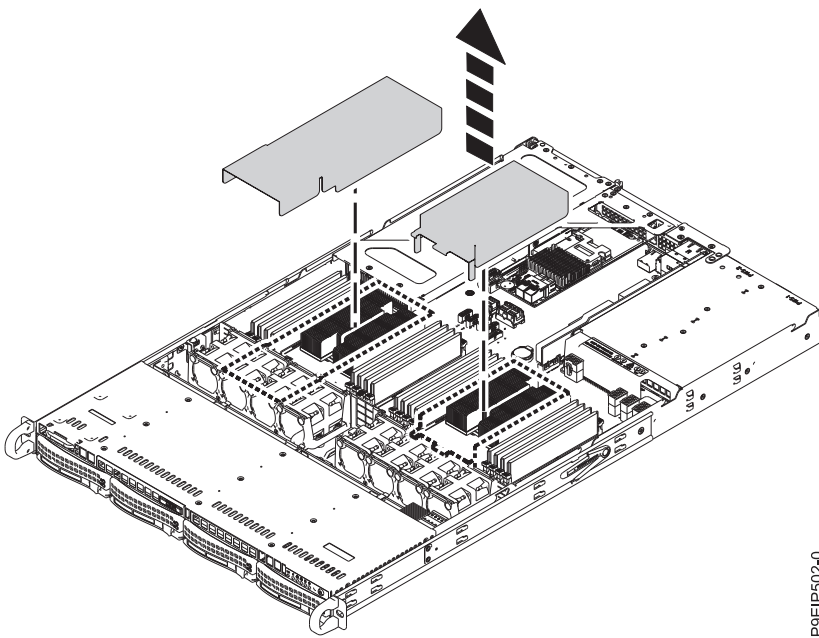

Figure 64. Removing the processor air baffle
3. Remove the processor air baffle as shown in Figure 64. Carefully unsnap and lift the processor air baffle from the system.